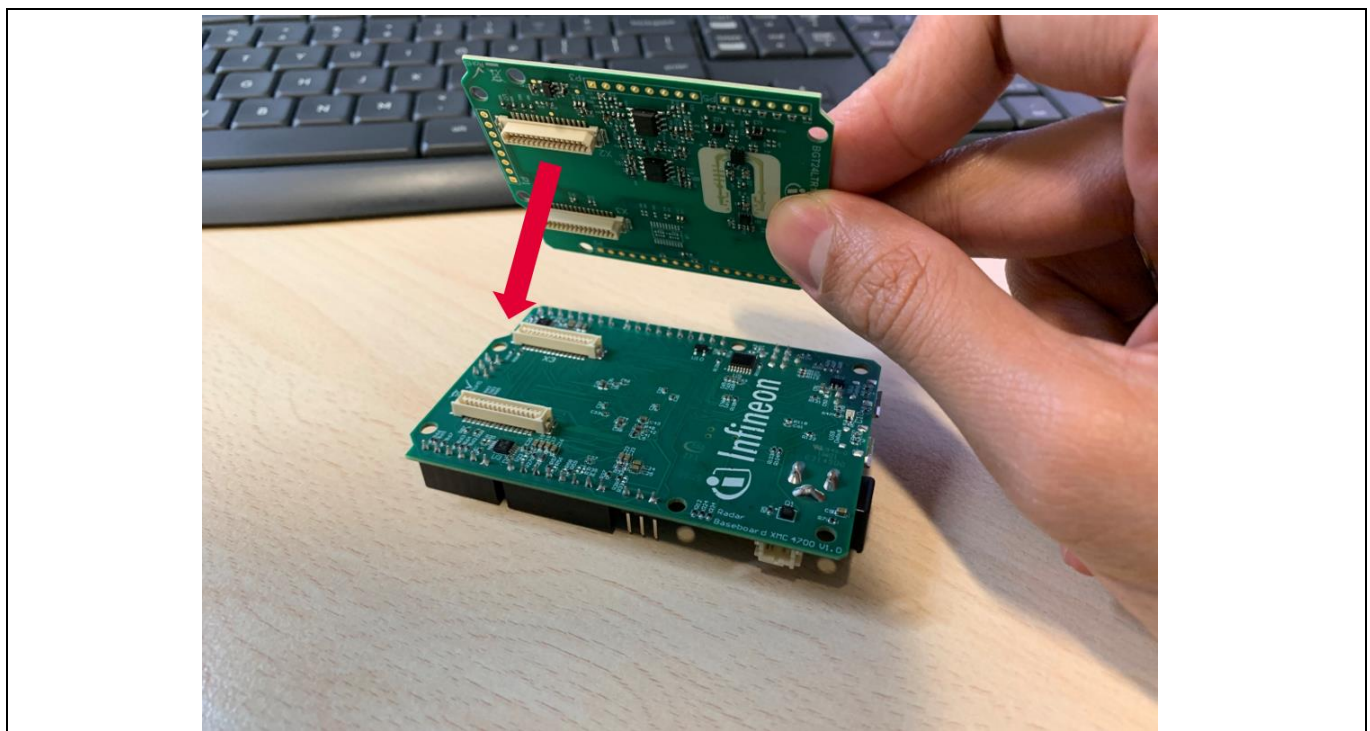

Figure 27 **Attach the BGT24LTR11 shield to the radar baseboard XMC4700**
4. Attach the BGT24LTR11 radar shield to the radar baseboard XMC4700 via the SAMTEC connectors (Figure 27).